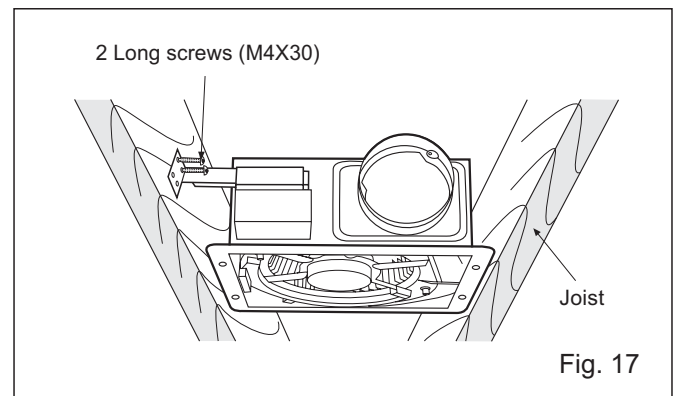
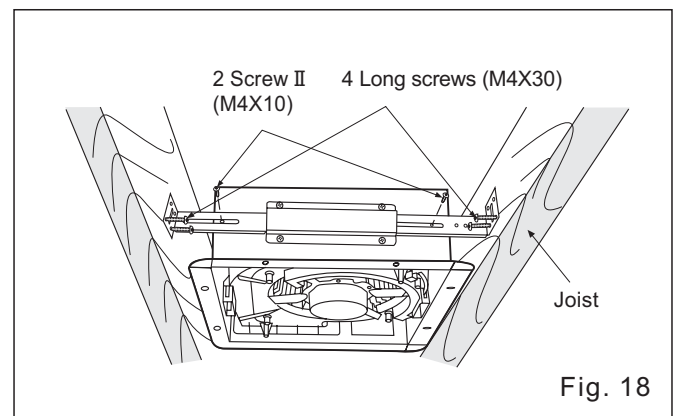

Fig. 17
Fig. 18
4. Secure the suspension bracket to joists by using long screws (M4X30). (Fig. 17, Fig. 18)
5. Secure the suspension bracket to fan body by using screw II (M4X10). (Fig. 18)